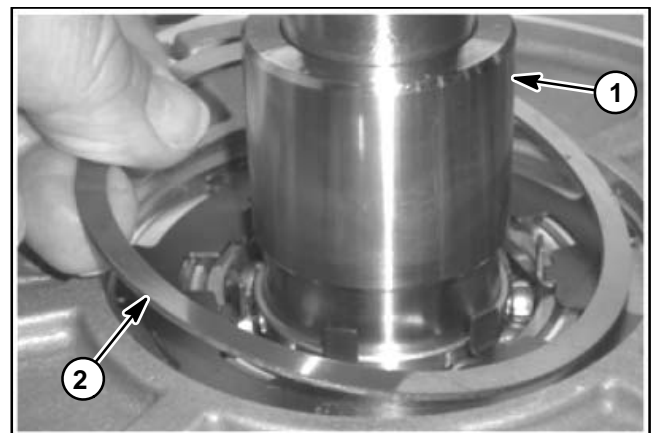

Figure 23
5. Place the gear spacer on top of the armature plate and secure with retaining ring (Fig. 23). Make sure that retaining ring is fully seated into groove in cover plate.